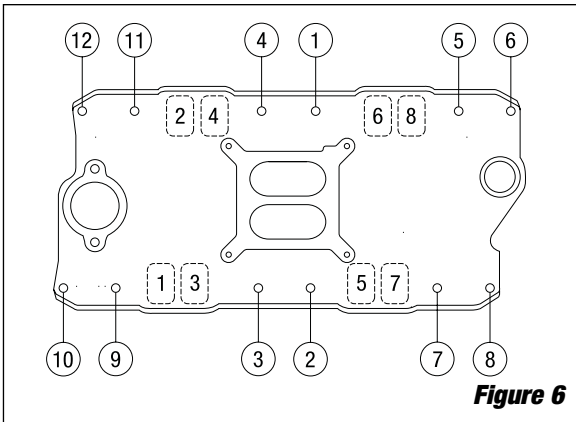
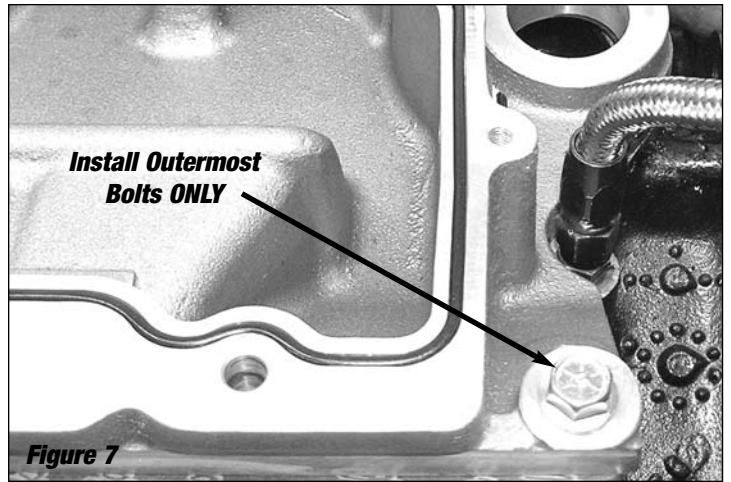

Figure 6
Figure 7
Torque bolts to 25 ft./lbs. Follow the sequence shown in **Figure 6**. For E-Tec/Vortec applications, install the four (4) outermost bolts ONLY, and DO NOT TIGHTEN. Snug these bolts by hand with a small box-end wrench. This will keep the manifold steady while installing the supercharger and manifold top plate assembly **(See Figure 7)**.